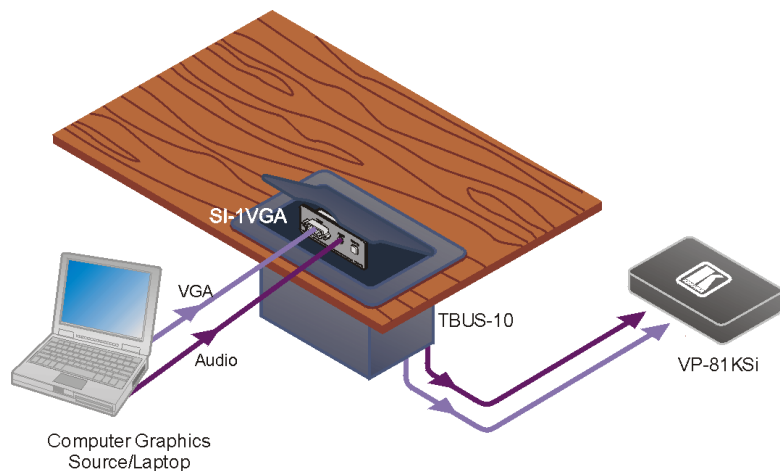

Figure 3: SI-1VGA Mounted in the T-BUS10
The Kramer *SI-1VGA* is a VGA and unbalanced stereo audio remote control panel that can, for example, fit into the Kramer *TBUS-10 Table Connection Box* (see Figure 3) or the *K-POD301 Podium Table Bus*. The *SI-1VGA* is used for remotely taking control of a compatible switcher, for example, the *VP-81KSi*.
Note: The following steps assume that you have video (with 15-pin HD (M) connectors) and audio (with 3.5mm mini jacks) cables running from the switcher inputs to the inside of either the *TBUS-10* (see Figure 3) or the *K-POD301*, depending on which you are using.
Figure 3 illustrates the SI-1VGA mounted in the T-BUS10.